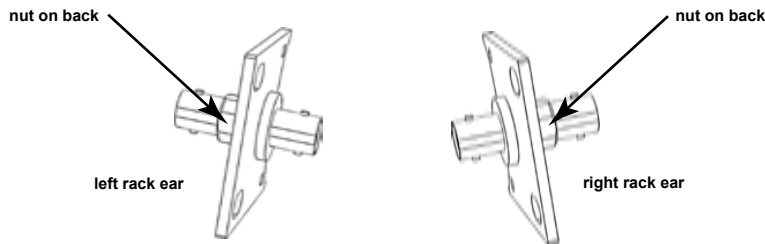

FIGURE 7
1. Connect the supplied BNC connector to each rack ear prior to installing the rack ears to the chassis. Make certain that the nut goes on the back side of the rack ear as shown in figure 7.